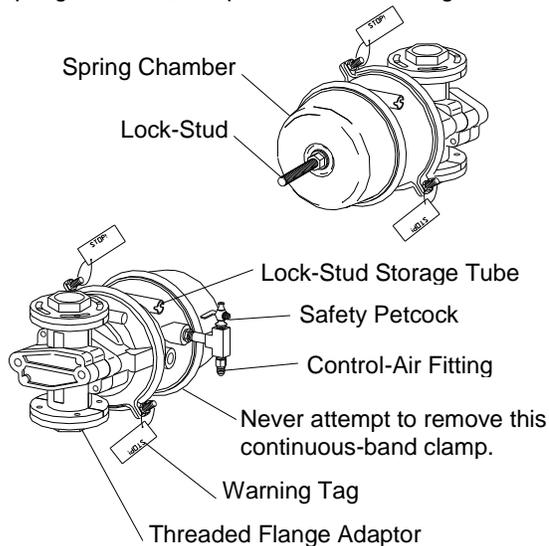

Figure 1
1.3 Description: PVR valves are normally-closed and pneumatically operated, requiring compressed air to open. The components are shown in Figure 1.
2.3 Connect the air control line to the air fitting shown in Figure 1.